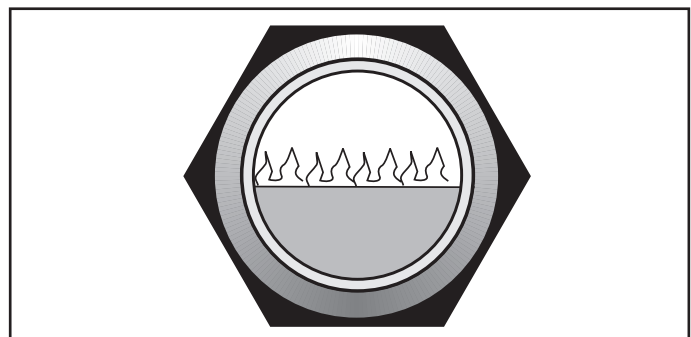

Figure 29. Burner flame (visible near top of heater in mirror).
5. Make a visual check of the main burner flame. The flame can be seen in a mirror/viewport arrangement in the upper part of the heater. The flame should be light blue and the burner surface should be dark, with only a few glowing fibers. See Figure 29.